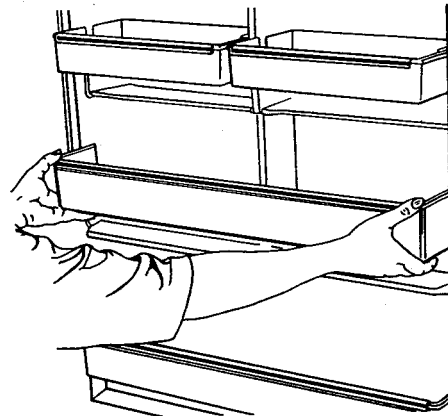

Figure 33
- c. Then pull out to remove. See Figure 33.